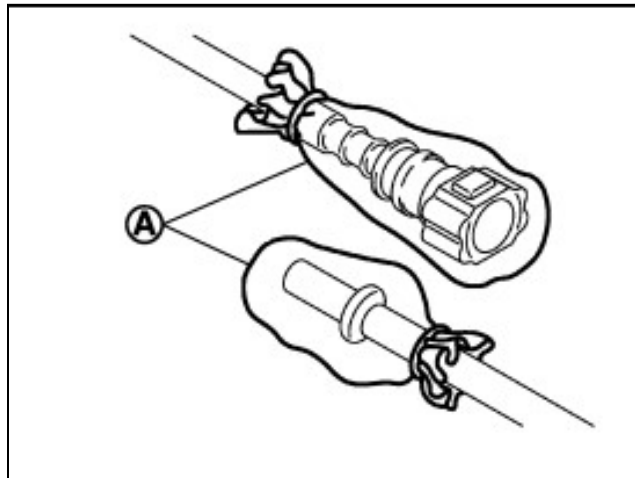

Figure 3
- To keep the connecting portion clean and to avoid damage and foreign materials, cover them completely with plastic bags (A) or something similar (Figure 3).